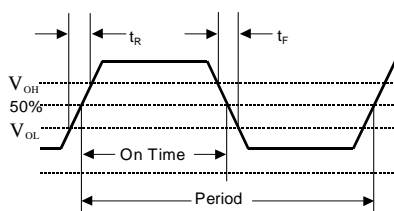
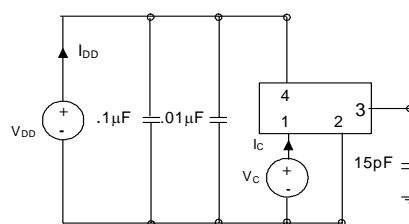

Figure 3. Output Waveform
Figure 4. Typical Output Test Conditions (25±5°C)
2. Figure 3 defines these parameters. Figure 4 illustrates the operating conditions under which these parameters are tested and specified. For $F_O > 90$ MHz, rise and fall time is measured 20 to 80%.